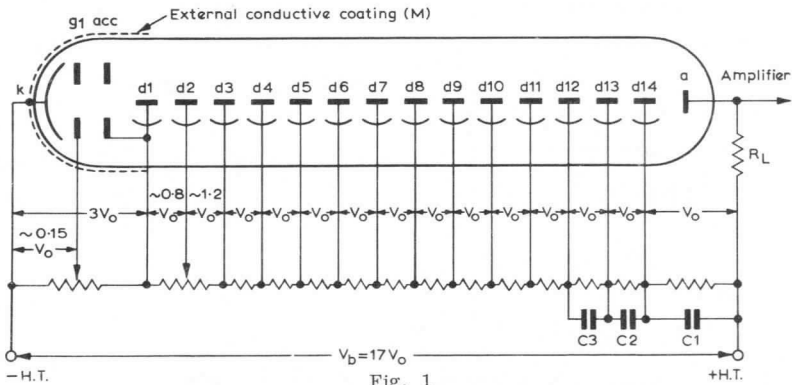
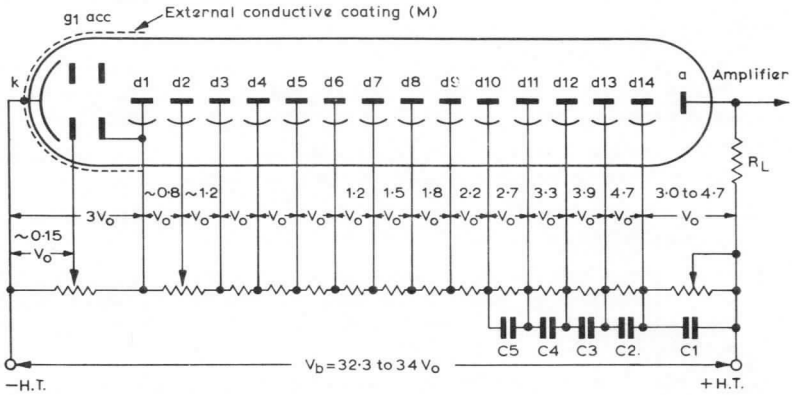

Fig. 1
Fig. 2
VOLTAGE DIVIDER AS IN FIG. 1
VOLTAGE DIVIDER AS IN FIG. 2
*Or the voltage at which the tube, when used in the circuit of Fig. 1, has a gain of about 10^9 , whichever is the lower.
7. Different types of voltage dividers are possible. The voltage divider in Fig.1 has the higher gain, while a higher anode current with better time characteristics can be obtained when the tube is connected as in Fig.2.